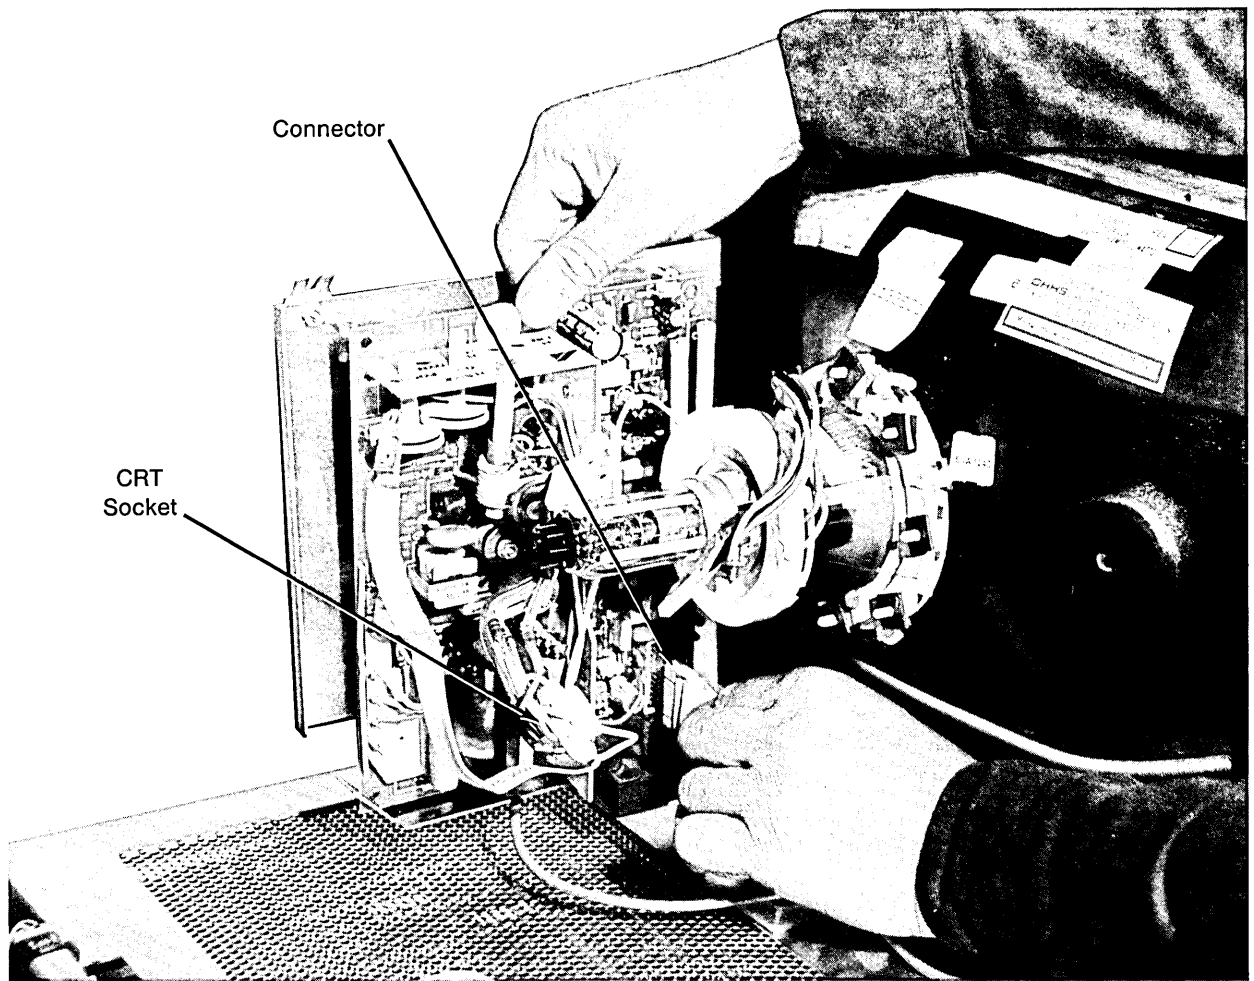

Figure 5-20. Disengaging Connector
6. See figure 5-20. Remove the CRT socket from the pins at the rear of the bulb. Remove the connector plug from its socket at the lower right corner of the PCB.
1. Lower a PCB until the bottom corners rest in the bracket slots as shown in figure 5-20. Replace the two machine screws which fasten the PCB (as well as the mu-metal shield support bracket) in place.